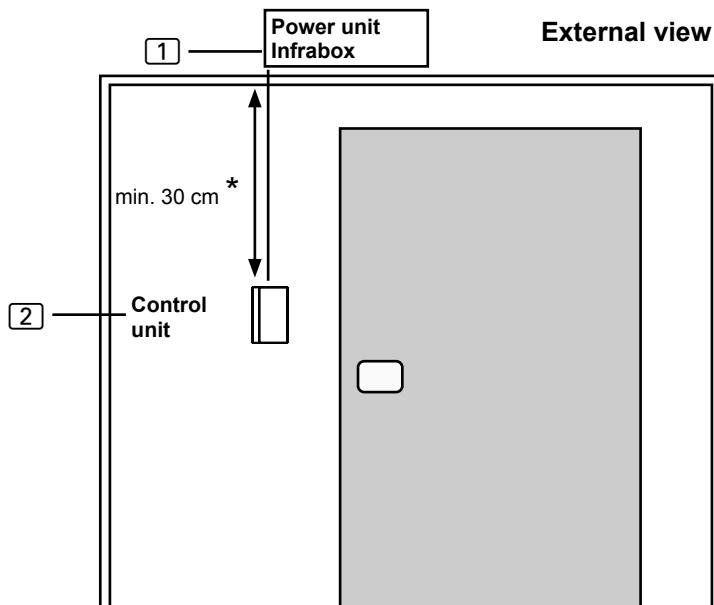

Fig. 2 Control unit position
The control unit [2] of the infrared controller is installed on the outside wall of the cabin with a maximum clearance of 10 metres from the power supply unit [1] (see Fig. 2). For the installation, a standard jigsaw is required to cut out the recess for the control unit. The control unit can be installed both inside and outside the cabin.
* For installing inside an infrared cabin, a minimum clearance of 30 cm must be maintained (see Fig. 2 Control unit position on page 11).